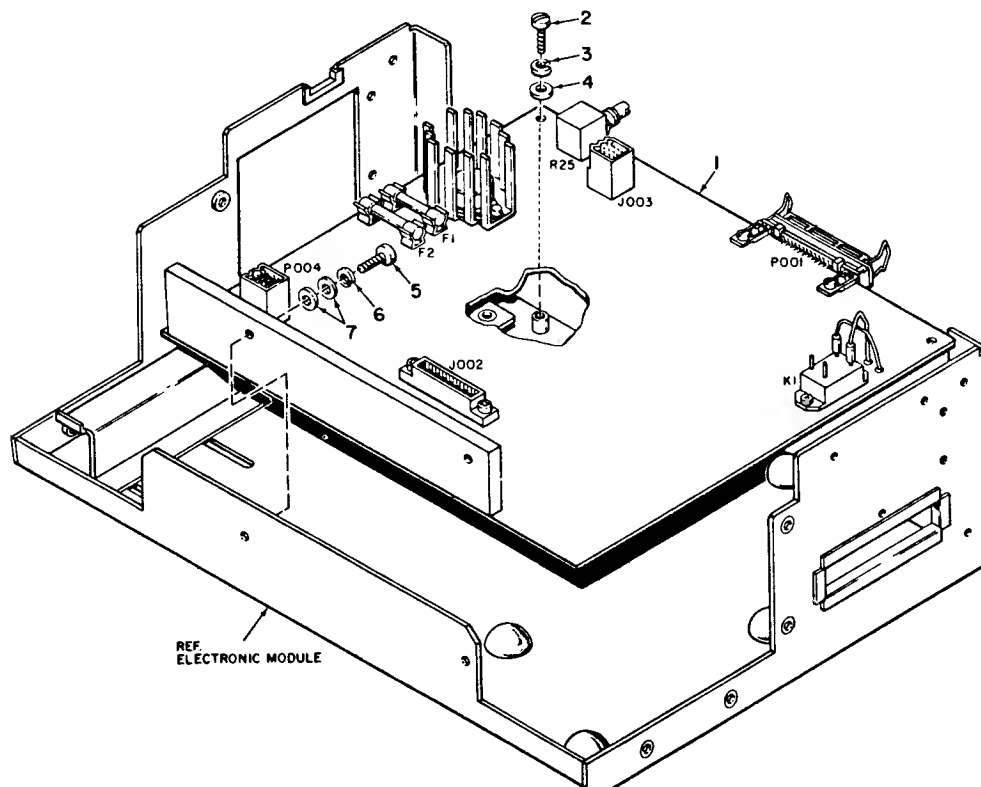

Figure 3-8 I. KIT, LOGIC BOARD ASSEMBLY
3.17 LOGIC BOARD ASSEMBLY (Figure 3-8 I)